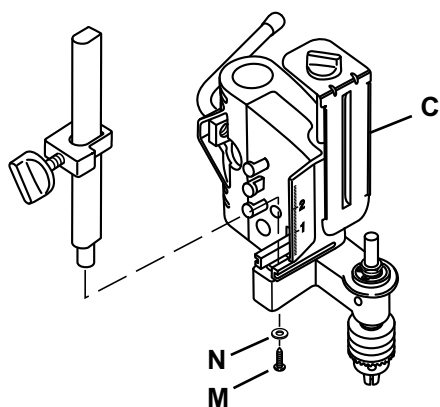

Figure 4
5. Slide depth stop assembly into head assembly (**C**) and secure with screw (**M**) and washer (**N**). See Figure 4.